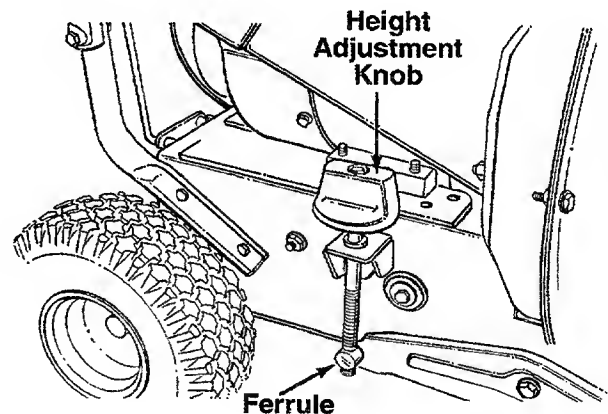

FIGURE 10.
The height adjustment knob is located on the right hand side of the chipper-vacuum. See figure 10. Turn the knob clockwise to raise the nozzle. Turn the knob counterclockwise to lower. (Be careful not to turn knob too far—rod could come out of ferrule.)
Your four-cycle engine will normally consume some oil—therefore, check engine oil level regularly approximately every five hours of operation and before each usage. Stop engine and wait several minutes before checking oil level. With engine level, the oil must be to FULL mark on dipstick (refer to figure 10). Change engine oil after the first five hours of operation, and every twenty-five hours thereafter.
- Remove oil drain cap. Refer to figure 10. Catch oil in a suitable container.